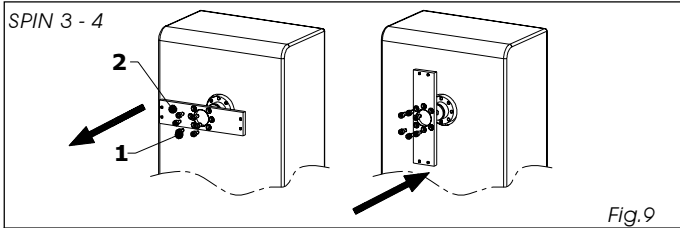

Fig.9
- remove the screws which fasten the rod carrier plate, fig. 9 and 10.
- rotate the rod carrier plate, ref.2 fig. 9 and 10, by 90°.